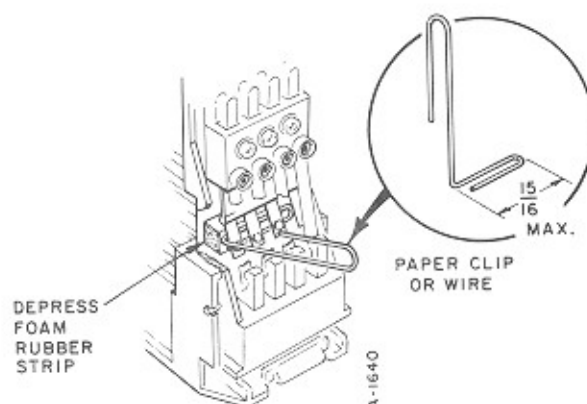

FIGURE 2.
- a. Fashion an implement out of a paper clip similar to that shown in Figure 2. Wire, of a comparable gauge, may also be used.
- b. Using this implement, depress the foam rubber pad located behind the short blades, see Figure 2.